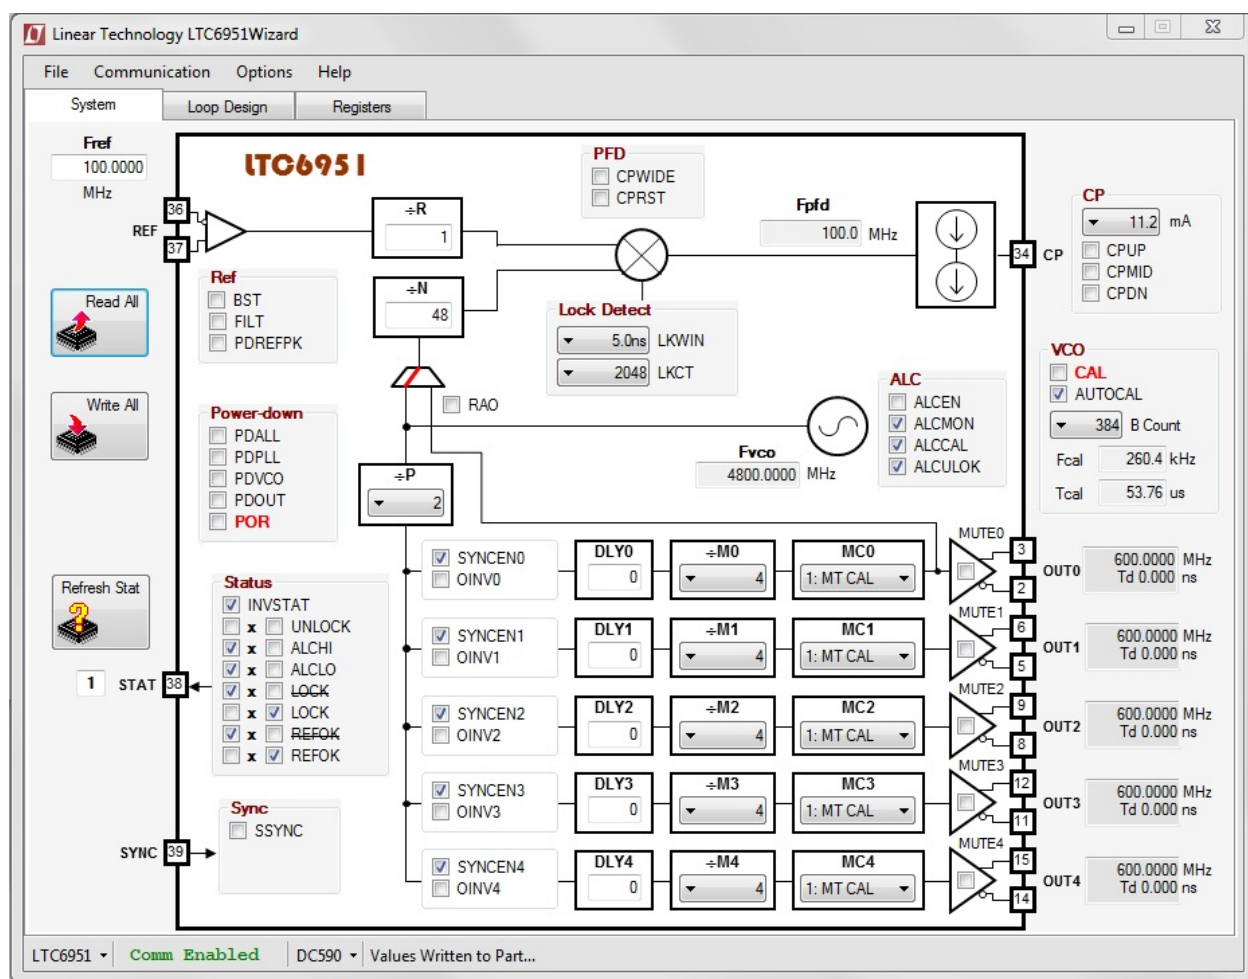

Figure 3. LTC6951Wizard Screenshot
1. In LTC6951Wizard's System tab click "Read All". LTC6951Wizard should match Figure 3. If not, see "Verify DC2248A and LTC6951Wizard Communication."
To verify communication with the DC2248A, the bottom status line in LTC6951Wizard should read "LTC6951" and "Comm Enabled" as shown in Figure 3. If not, then perform the following steps: